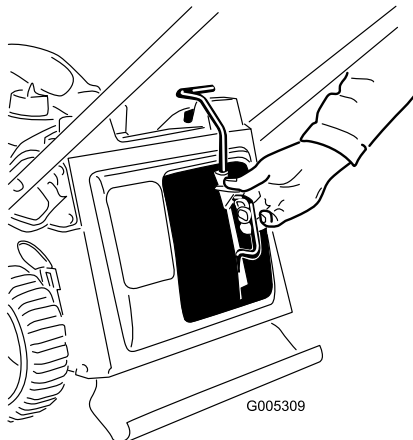

**Figure 19**
3. Tighten the upper handle knob firmly (Figure 19).